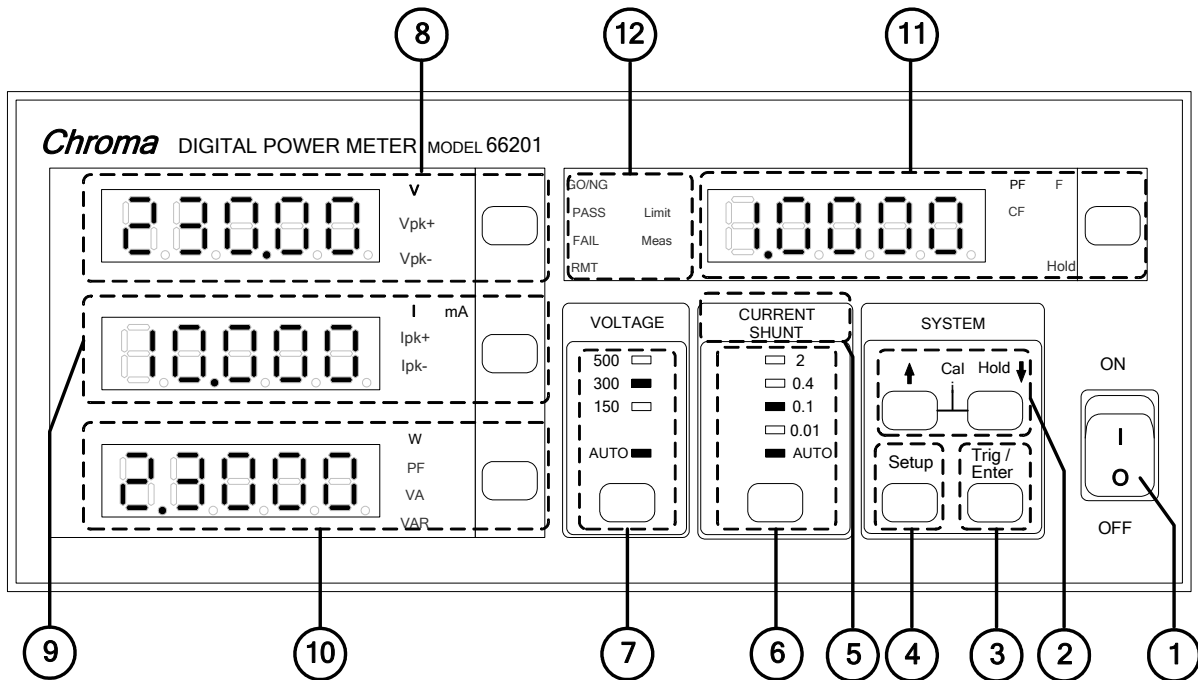

Figure 3-1 Front Panel of 66201 Digital Power Meter
Figure 3-1 and 3-2 show the front panel of 66201 and 66202 digital power meters with parts described from item (1) to (12) as listed below. For detail operation procedures, see Chapter 4 for more information.